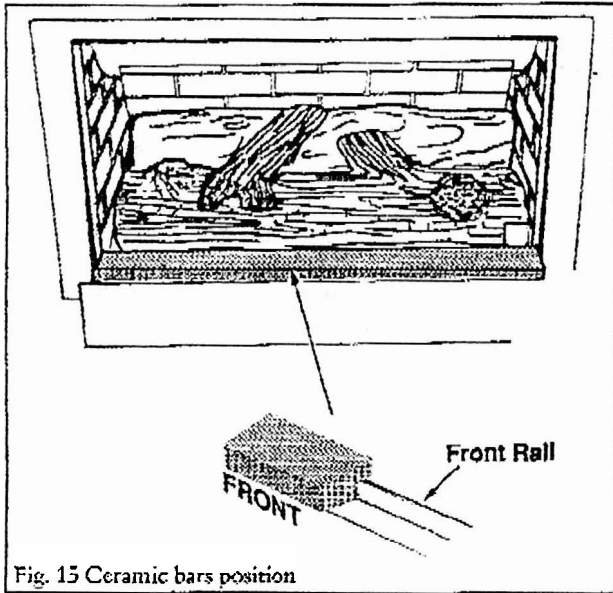

Fig. 15 Ceramic bars position
- 12.6 Place the two ceramic bars over the front rail of the firebox (see figure 15).